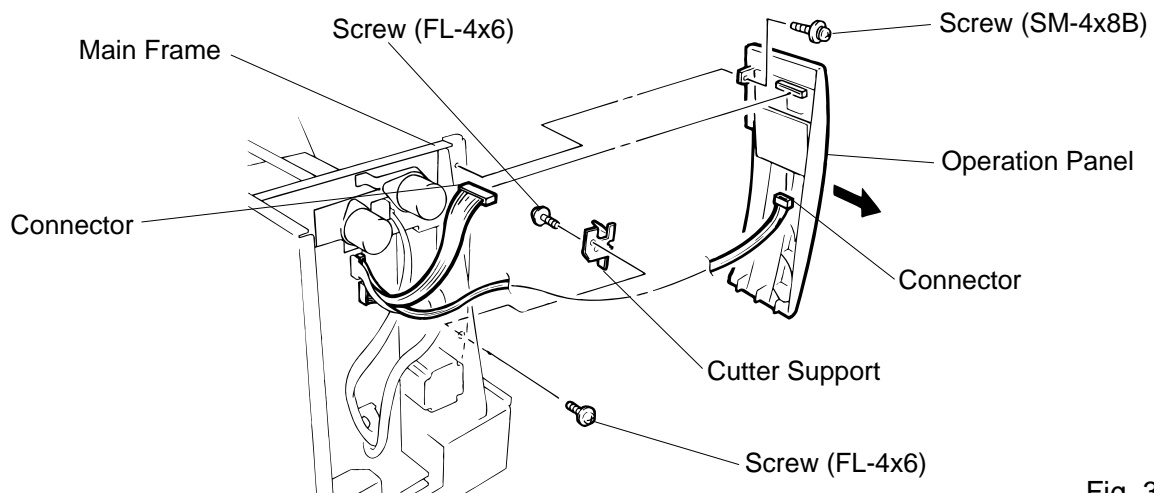

Fig. 3-1
- 4) Remove the operation panel (See Fig. 3-1)